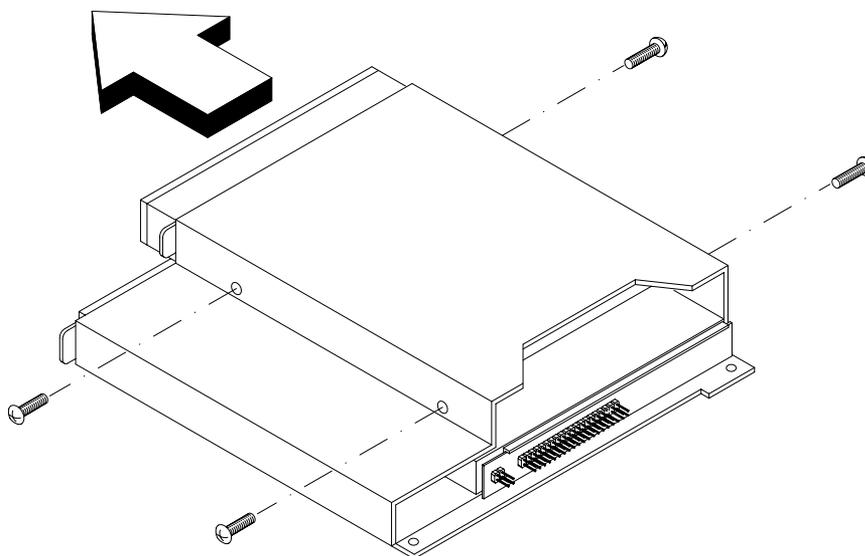

Figure 2-30 Removing the Diskette Drive from the Drive Module
2. Remove four screws, two on each side of the disk drive module, as shown in Figure 2-30.
3. Gently pull the drive out of the drive module as shown in Figure 2-30.